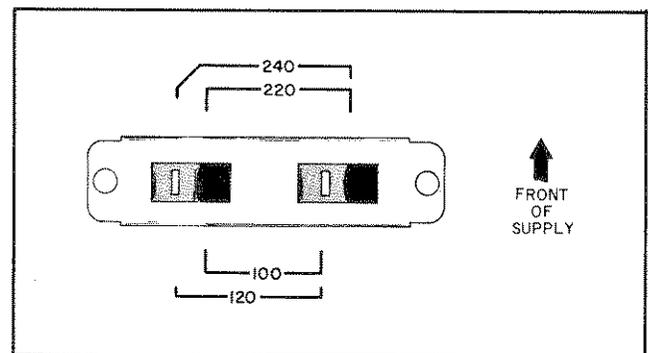

Figure 3-2. Line Voltage Selector (Set for 120 Vac)
Before applying power to the supply, make certain that its line voltage selector switch (S3) is set for the line voltage to be used. This switch is mounted on the circuit board behind the voltmeter and is visible through the perforations in the top cover. The positions of the two white marks on the switch indicate the switch setting (see Figure 3-2). If the switch setting does not correspond to the intended power source, proceed to Paragraph 3-4 before applying power.
1. After making certain that the line cord is disconnected from a source of power, remove the top cover from the supply and set the two sections of the line voltage selector switch for the desired line voltage (see Figure 3-2).